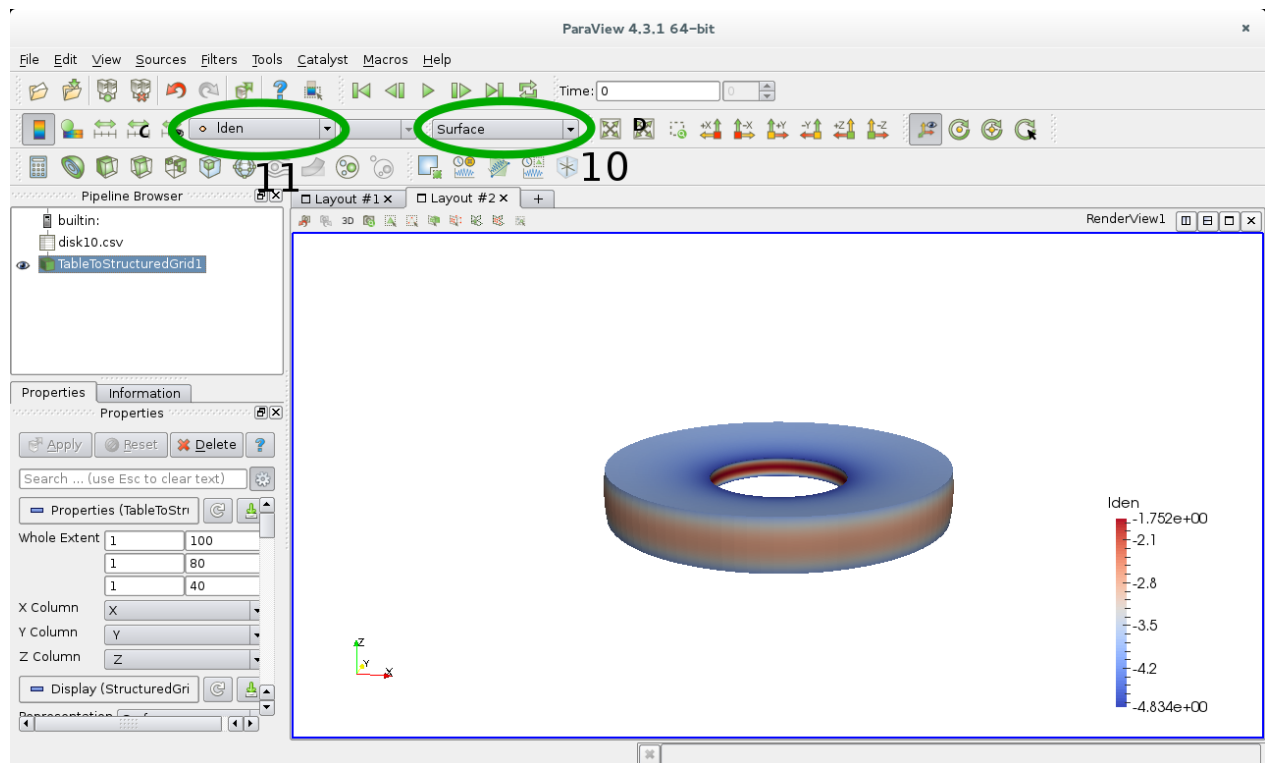

Figure A.5: 3D visualization with Paraview. Steps 10-11.
11. Select lden to visualize the density logarithm data, you should obtain something like figure A.5.